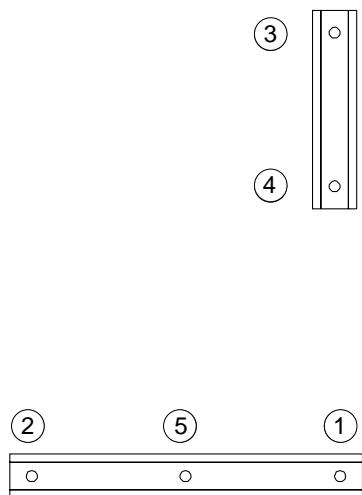

FIGURE 4 Tightening Pattern for the Processor Module
- a. Tighten the captive connector screws in the sequence shown in FIGURE 4 until they touch the metal plate.
- b. Tighten each captive connector screw in the sequence shown in FIGURE 4 an additional 1/2 turn.
- c. Tighten the captive connector screws to a final torque of 0.68 Nm (6.0 inch pounds) in the pattern shown in FIGURE 4.